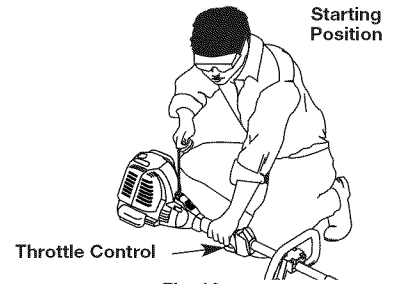

Fig. 12
-  **WARNING:** Avoid accidental starting. Make sure to be in the starting position when pulling the starter rope (Fig. 12). To avoid serious injury, the operator and unit must be in a stable position while starting.
4. With the unit in the starting position, **do not squeeze the throttle control** (Fig. 12). Pull the starter rope in a controlled motion until unit starts.
4. With the unit in the starting position (Fig. 12). Place the Plug-In Power Start or Power Bit Start into the back of the unit. Refer to Operation section of the Plug-In Power Start or Power Bit Start operator's manual.
5. **Do Not squeeze the throttle control**, press and hold the Plug-In Plug-In Power Start or drill's ON (I) button for 2 second intervals until unit starts.